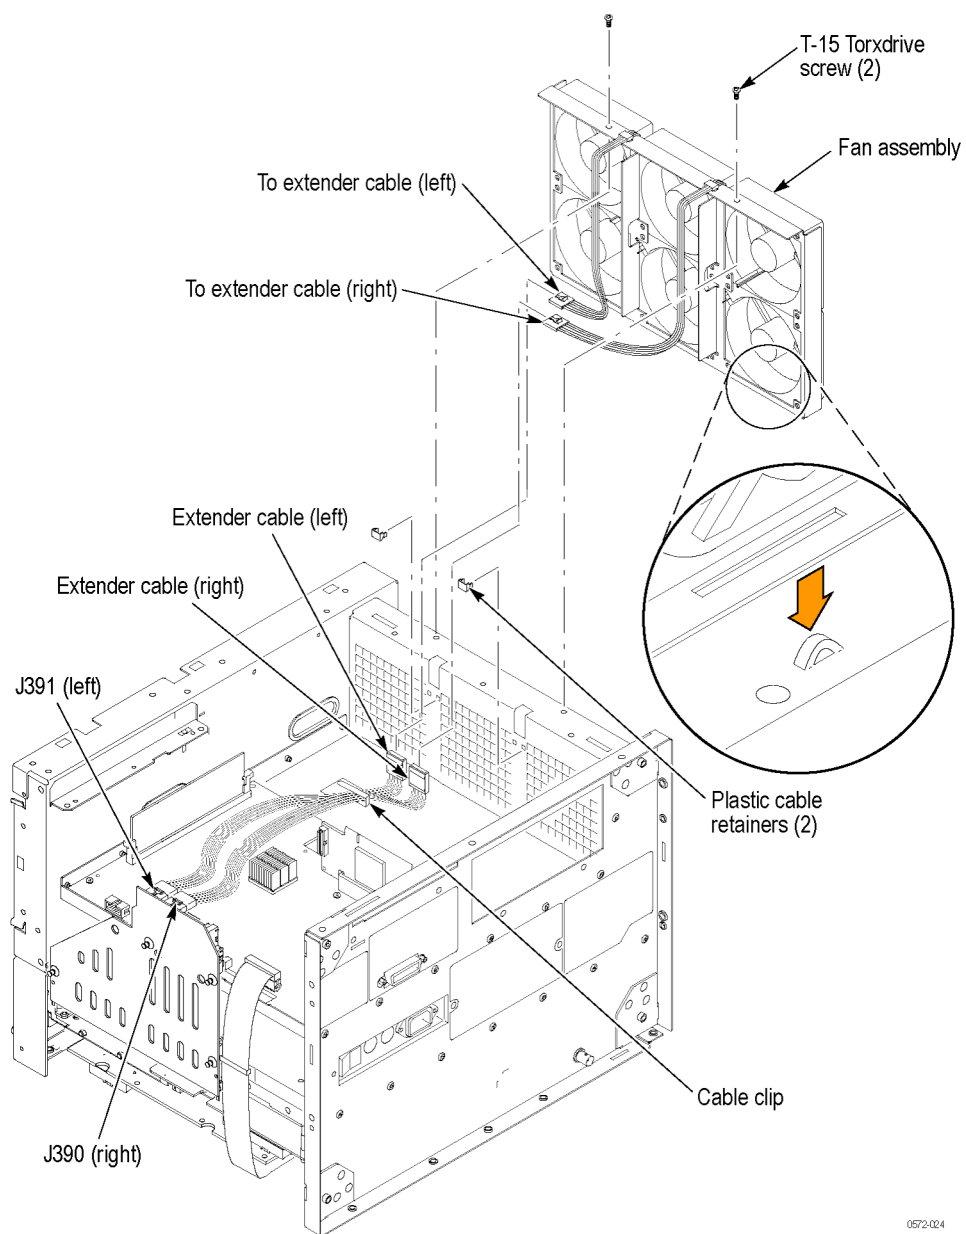

Figure 16: Fan assembly removal
2. *To remove the Bridge board:* (See Figure 16 on page 51.)
2. *To remove the fan assembly:* (See Figure 16 on page 51.)